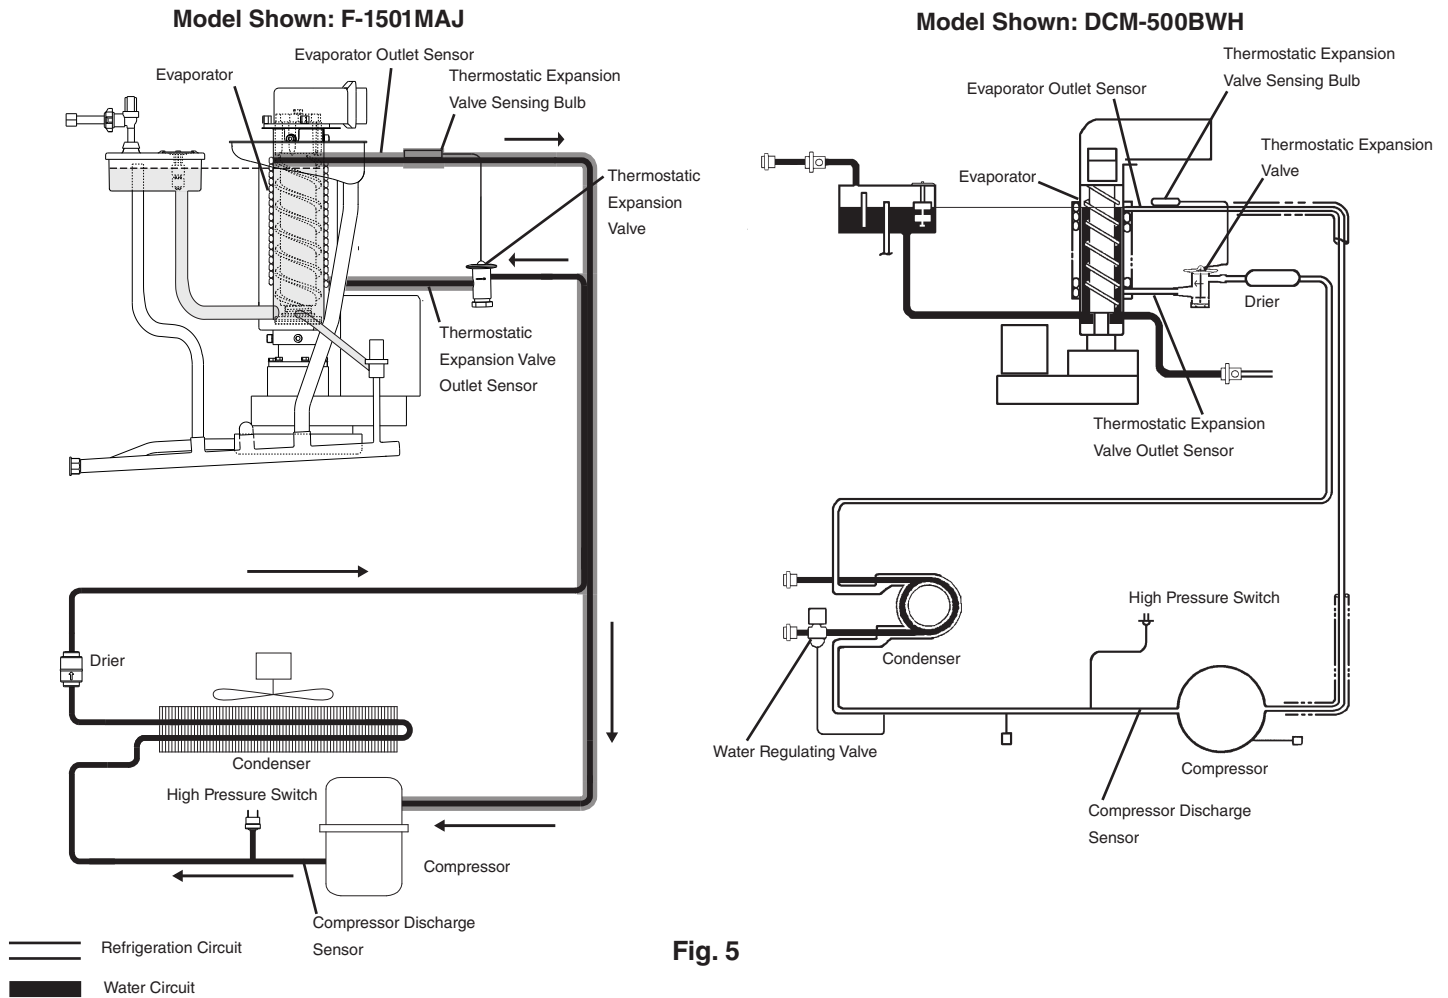

Fig. 5
11) Route each of the sensors to their appropriate location. See Fig. 5.